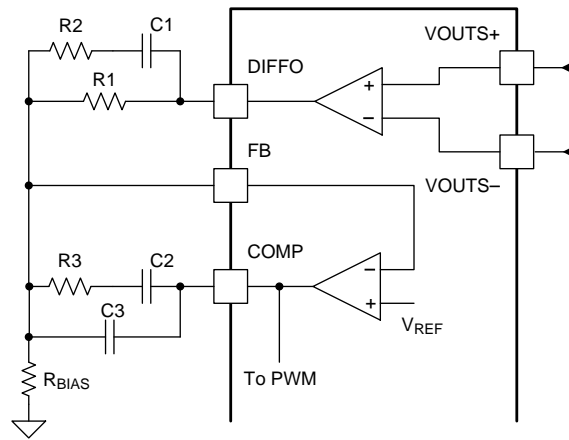

Figure 33. Output Voltage Setting
The TPS544x25 devices implement a differential remote sense amplifier to provide excellent load regulation by cancelling IR-drop in high current applications. The VOUTS+ and VOUTS– pins should be kelvin-connected to the output capacitor bank directly at the load, and routed back to the device as a tightly coupled differential pair. Ensure that these traces are isolated from fast switching signals and high current paths on the final PCB layout, as these can add differential-mode noise. Optionally, use a small coupling capacitor (1-nF typical) between the VOUTS+ and VOUTS– pins to improve noise immunity. The output of the differential remote sense amplifier (DIFFO) is used for output voltage setting and error amplifier frequency compensation local to the device as shown in Figure 33.
A voltage divider from the DIFFO pin to the FB pin is typically required to set the nominal output voltage like the one formed by R1 and R_{BIA}S resistors shown in Figure 33. To allow PMBus devices to map between the commanded voltage and the voltage at the control circuit input (V_{OUT} divided down to match a reference voltage), the device uses the VOUT_SCALE_LOOP command.
$$\bullet \quad V_{OUT_SCALE_LOOP} = R_{BIAS} / (R_{BIAS} + R1) \text{ (as shown in Figure 33)} \quad (1)$$